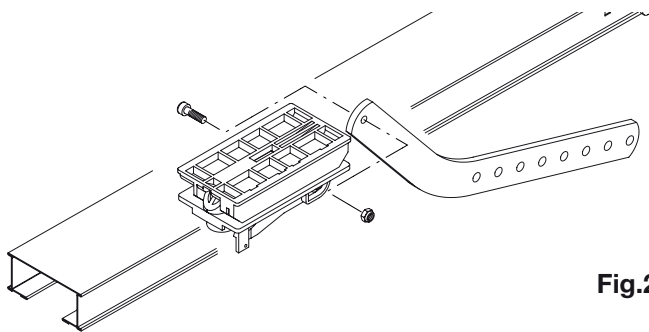

Fig.24
7) Apply the curved bracket JMP.7 to the drive carriage as indicated in figure 24, blocking it with the screw and nut.